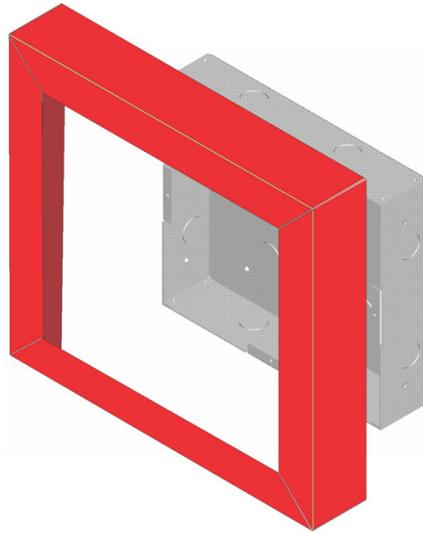

Figure 4.14 Installing Trim Ring
- Place the trim ring over the back box as shown in Figure 4.14.